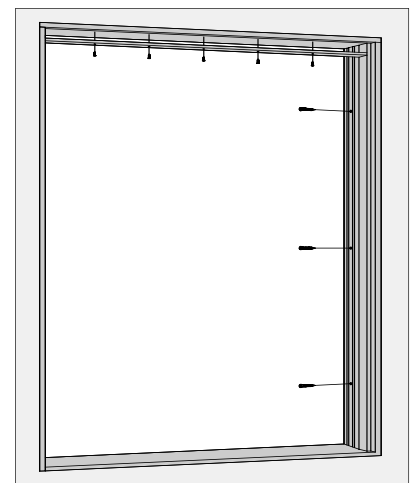

Fig. 3. Secure jamb liners and head jamb filler
- 5 Secure jamb liners to frame with provided screws (jamb liners are drilled for screws) as shown in fig. 3